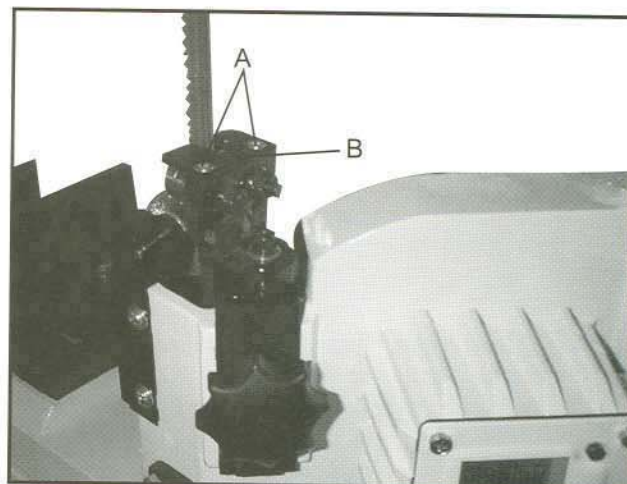

Fig. 3
3. Remove two screws (A, Fig. 3) and remove the deflector plate (B, Fig. 3).